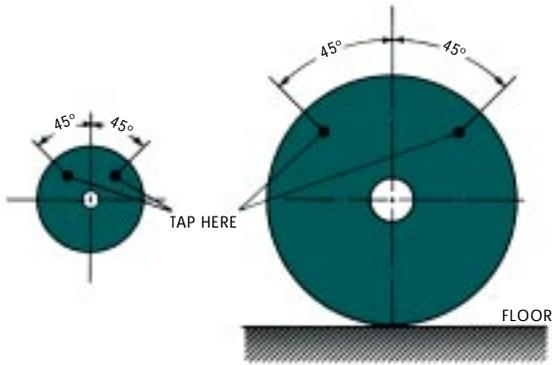

Fig. 1: Tap points for the "ring test"
- * Do not use defective wheels. Check for soundness of wheels by a 'ring test'. (Suspend the wheel vertically and tap the areas as shown in Fig. 1 with a light non-metallic tool, such as a wooden screwdriver handle. It should ring. Do not use the wheel if it sounds cracked.)